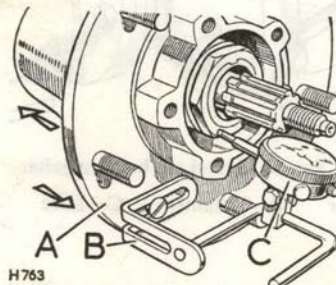

Fig. 64 Checking hub end-float
157. The adjusting procedure for the rear hub is exactly as that on the front hub. Para. 171 covers the procedure to be carried out except that items 2 and 10 are not applicable. See Fig. 64.
- (1) Jack up the front of the vehicle and remove the road wheel and brake drum.
- (2) Drain off the oil from the universal joint housing (remove both drain and filler plugs).
- (3) Remove hub cap (press fit on the driving member).
- (4) Place a drip tray below the hub and remove the driving member and joint washer from the stub shaft and the hub.
- (5) Mount a dial test indicator on one of the road wheel studs, using the bracket illustrated at Fig. 64. The total hub movement should be .002-.004 in. (0,05-0,10 mm).